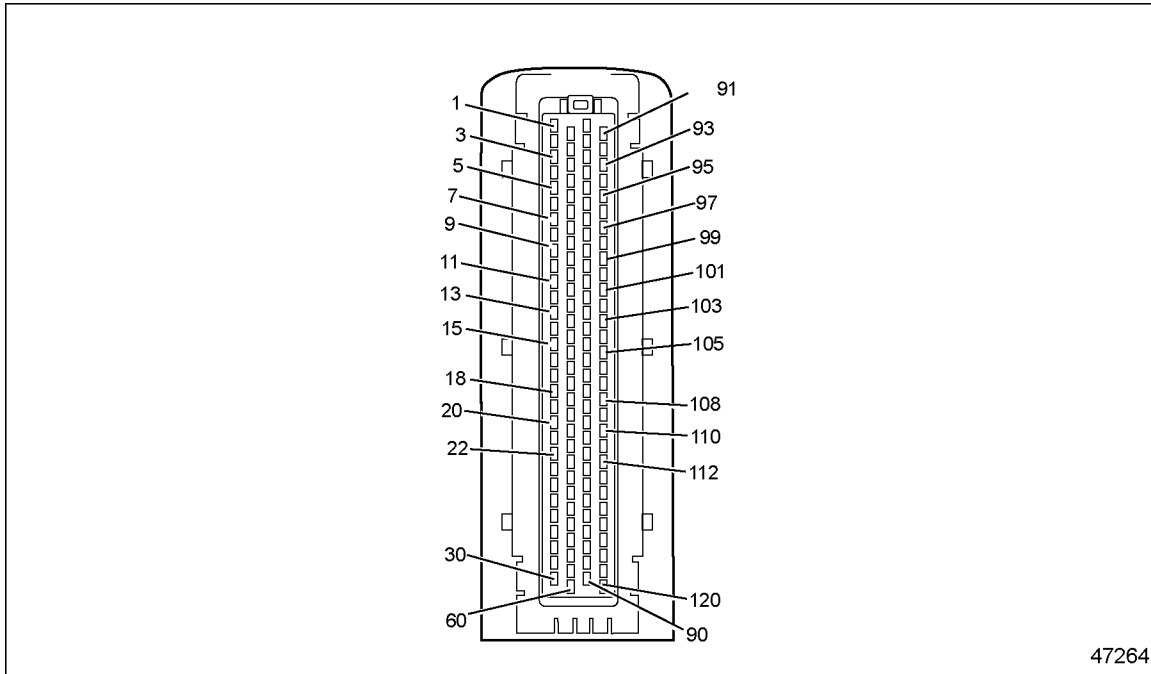

Figure 28-1 120-pin Connector
- [a] If the voltage is less than 11.5 volts, repair the open between pin J of the 23-pin connector and pin 18 of the MCM 120-pin connector (see Figure 28-1). Refer to section 28.1.3.1.